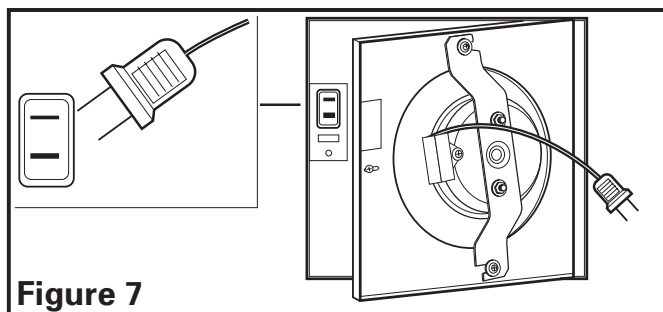

Figure 7
1. Reinstall the fan's venturi by holding it at approximately a 45 degree angle, hook the two tabs on the venturi into the slots on the housing and secure in place by tightening the venturi screw. Rotate the blower wheel by hand to ensure it spins freely. Now plug the fan motor into the receptacle (Figure 7).